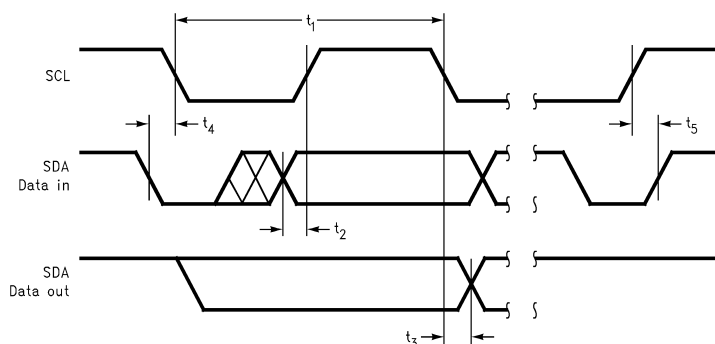
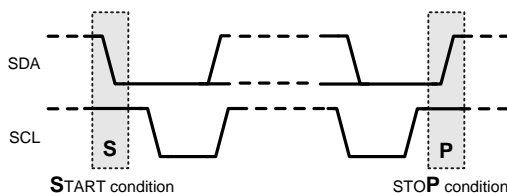
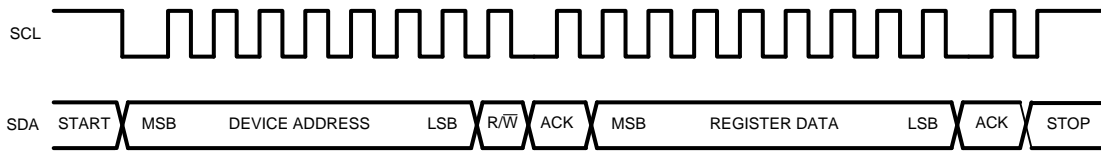

Figure 32. I²C Timing Diagram
Figure 33. Start and Stop Diagram
Figure 34. Start and Stop Diagram
- (1) "Absolute Maximum Ratings" indicate limits beyond which damage to the device may occur, including inoperability and degradation of device reliability and/or performance. Functional operation of the device and/or non-degradation at the *Absolute Maximum Ratings* or other conditions beyond those indicated in the *Recommended Operating Conditions* is not implied. The *Recommended Operating Conditions* indicate conditions at which the device is functional and the device should not be operated beyond such conditions. All voltages are measured with respect to the ground pin, unless otherwise specified.
- (2) The *Electrical Characteristics* tables list ensured specifications under the listed *Recommended Operating Conditions* except as otherwise modified or specified by the *Electrical Characteristics Conditions* and/or Notes. Typical specifications are estimations only and are not ensured.
- (3) Human body model, applicable std. JESD22-A114C.
- (4) Datasheet min/max specification limits are ensured by test or statistical analysis.
- (5) Refer to the I²C timing diagram, Figure 32.
- (3) Typical values represent most likely parametric norms at $T_A = +25^\circ C$, and at the *Recommended Operation Conditions* at the time of product characterization and are not ensured.
The LM49200 is controlled through an I²C compatible serial interface that consists of a serial data line (SDA) and a serial clock (SCL). The clock line is uni-directional. The data line is bi-directional (open drain). The LM49200 and the master can communicate at clock rates up to 400kHz. Figure 32 shows the I²C interface timing diagram. Data on the SDA line must be stable during the HIGH period of SCL. The LM49200 is a transmit/receive slave-only device, reliant upon the master to generate the SCL signal. Each transmission sequence is framed by a START condition and a STOP condition (Figure 33). Each data word, device address and data, transmitted over the bus is 8 bits long and is always followed by an acknowledge pulse (Figure 34). The LM49200 device address is 11111000.
The I²C bus format is shown in Figure 34. The START signal, the transition of SDA from HIGH to LOW while SCL is HIGH, is generated, alerting all devices on the bus that a device address is being written to the bus.